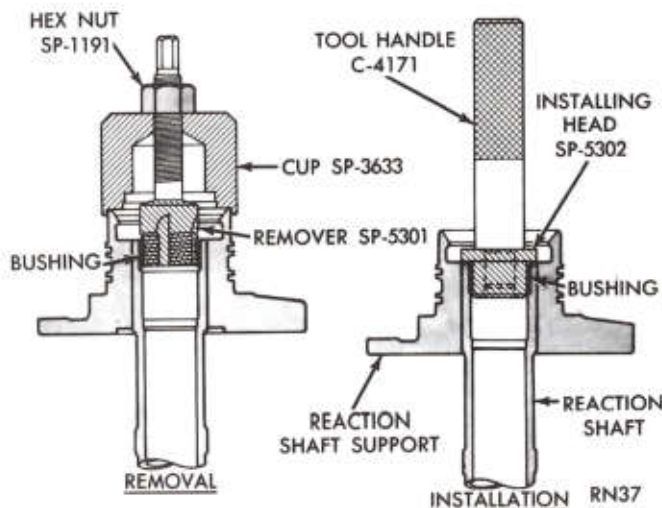

Fig. 17—Replacing Reaction Shaft Bushing (A-727)
- (1) Assemble the remover Tool SP-5301, cup Tool SP-3633, and hex-nut Tool SP-1191 (Fig. 17).
(2) With cup held firmly against reaction shaft, thread remover into bushing as far as possible by hand.
(3) Use a wrench to screw remover into bushing 3 to 4 additional turns to firmly engage threads in the bushing.
(4) Turn hex nut down against the cup to pull bushing from reaction shaft. Thoroughly clean reaction shaft to remove chips made by remover threads.
(5) Lightly grip bushing in a vise or with pliers and back tool out of the bushing. Be careful not to damage threads on bushing remover.
(6) Slide a new bushing (chamfered end first) on installing head Tool SP-5302, and start them in the bore of reaction shaft (Fig. 17).
(7) Support reaction shaft upright on a clean, smooth surface and install handle Tool C-4171 in installing head. Drive bushing into shaft until tool bottoms.